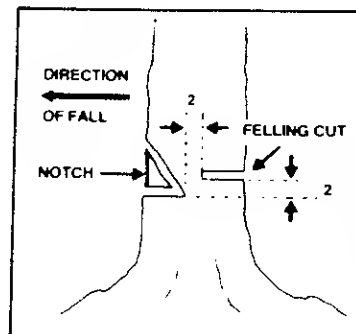

Figure 21
- Make the notch cut. Figure 21.